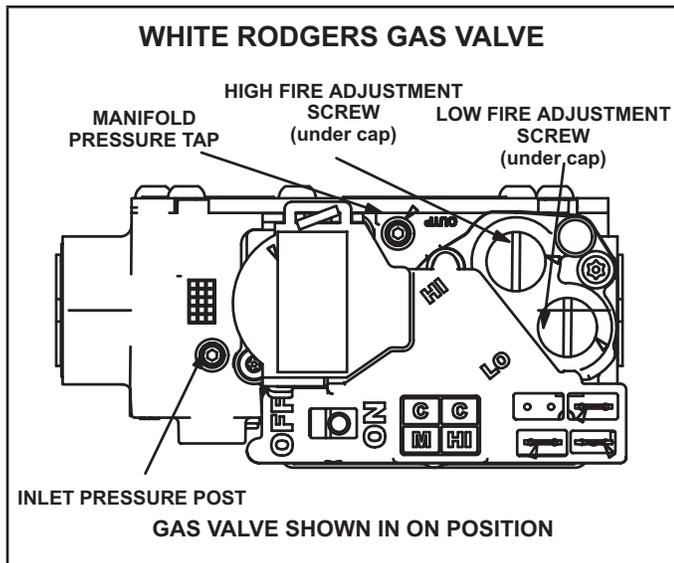

FIGURE 18
- 6 - Turn switch on gas valve to OFF. Do not force. See FIGURE 18.
- 8 - Turn switch on gas valve to ON. Do not force. See FIGURE 18.
- 4 - Turn switch on gas valve to OFF. Do not force. See FIGURE 18.
An inlet post located on the gas valve provides access to the supply pressure. See FIGURE 18. Back out the 3/32 hex screw one turn, connect a piece of 5/16 tubing and connect to a manometer to measure supply pressure. See TABLE 14 for supply line pressure.
- 1 - Connect test gauge to manifold pressure tap (FIGURE 18) on gas valve.
- 4 - If necessary, make adjustments. FIGURE 18 shows location of high fire and low fire adjustment screw.